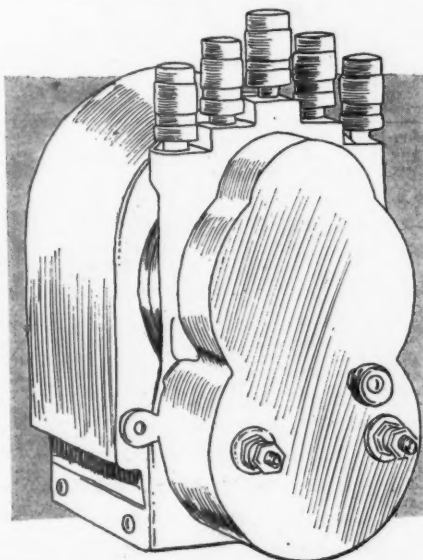

FIG. 28—BRIGGS MAGNETO
**Briggs**—No changes have been made in the Briggs line for 1913, in so far as construction is concerned, but the finish of the magnetos has been given greater consideration. Besides the standard high-tension models, one of which, the C-4, is shown in Fig. 28, the Briggs products for 1913 include a combination ignition and lighting device and another lighting and starting outfit. The H coil manufactured by this company is mounted on the motor side of the dash with only the switch appearing on the body side.